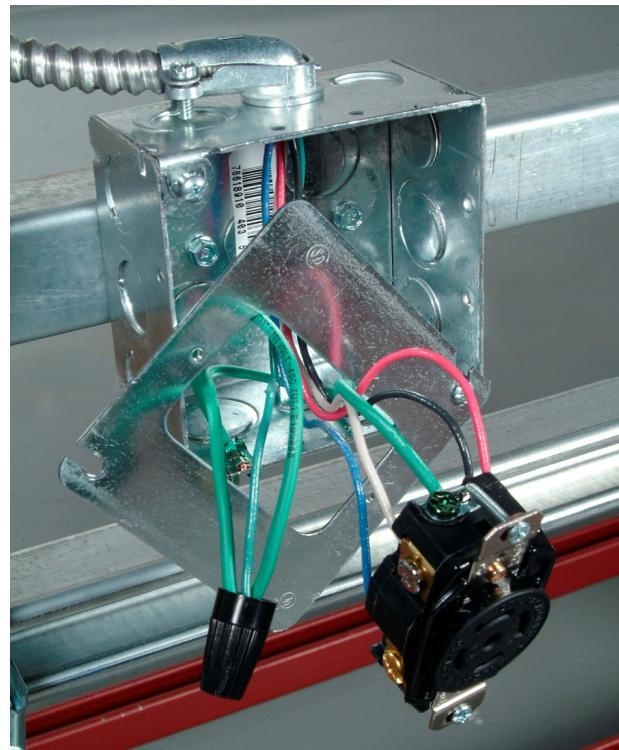

Figure 24. Connections at the three-phase receptacle.
- 19.** Install the adaptor cover for the three-phase receptacle on the metal outlet box as shown in Figure 24.
20. Strip the wires with red, black, and blue insulation from the type MC cable and connect them to terminals X, Y, and Z (brass-colored screw terminals) of the three-phase receptacle, respectively (see Figure 24).
22. The two following connections require a splice, made with a #35 solderless connector (wire nut) and two short lengths of No.14 AWG copper wire with green insulation, as shown in Figure 24.
- The three-phase receptacle is mounted on an adaptor cover that is attached to the metal outlet box with two screws (see Figure 24).
of the three-phase receptacle, respectively, as indicated in the electrical power distribution interconnection diagram, Part I (see Figure 24).
- The wire with white insulation from the type MC cable is connected to terminal W (silver-colored screw terminal) of the three-phase receptacle as indicated in the electrical power distribution interconnection diagram, Part I (see Figure 24).
- The wire with green insulation (equipment grounding conductor) from the type MC cable is connected to the ground terminal (green screw terminal) of the three-phase receptacle and the metal outlet box. This requires a splice, made with a #35 solderless connector (wire nut) and two short lengths of No.14 AWG copper wire with green insulation, as shown in Figure 24.
- The equipment grounding conductor (green insulation wire) is attached to the metal outlet box using a grounding clip (see Figure 24).